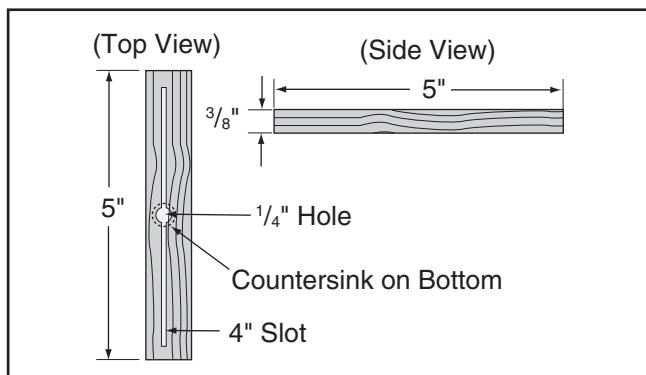

Figure 69. Miter bar pattern.
5. Cut a miter bar that will fit in the table miter slot approximately 5" long, as shown in **Figure 69**.